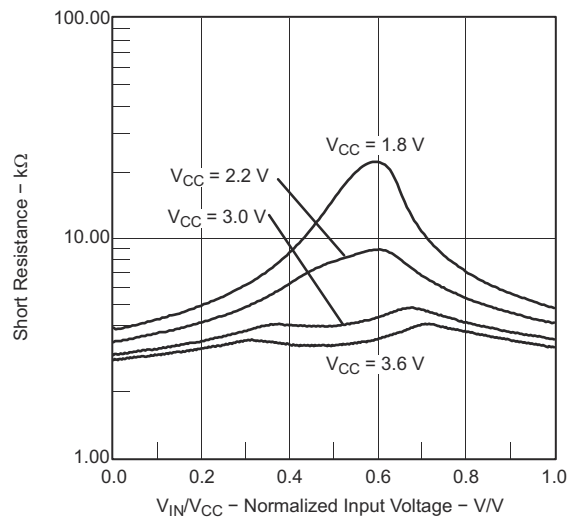

Figure 8-37. Short Resistance vs V_{IN}/V_{CC}
- (1) The leakage current for the Comparator_A+ terminals is identical to I_{lkg(Px,y)} specification.
- (2) Also see Figure 8-34 and Figure 8-37.
- (3) The input offset voltage can be cancelled by using the CAEX bit to invert the Comparator_A+ inputs on successive measurements. The two successive measurements are then summed together.
- (4) The response time is measured at P2.2/CAOUT/TA0/CA4 with an input voltage step and with Comparator_A+ already enabled (CAON = 1). If CAON is set at the same time, a settling time of up to 300 ns is added to the response time.